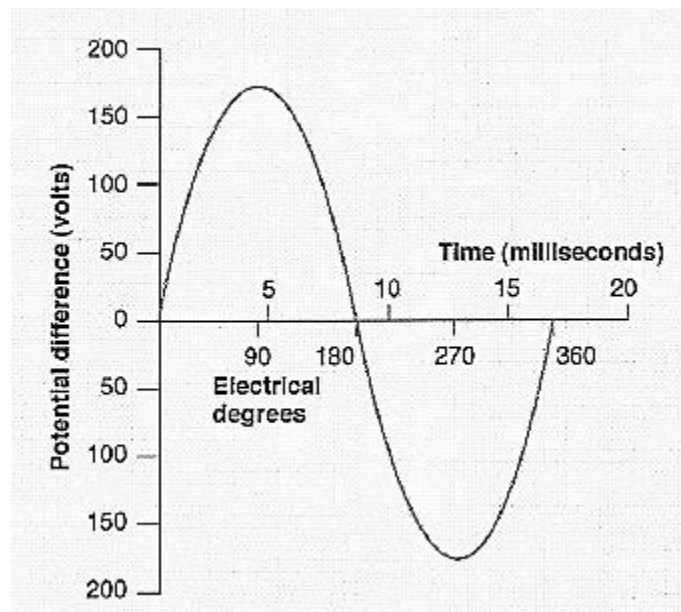

Figure 1.5: AC Cycle for 120V, 60 Hz
- 1-14 The AC waveform is called a *sine wave*. The name "sine" comes from the branch of mathematics called *trigonometry*. The waveform matches a graph of the sine of an angle as the angle increases. The output of an ac generator is proportional to the sine of the angle of the spinning rotor in the generator. The waveform for one complete revolution of the generator is shown in Figure 1.5.
- 1-17 The maximum height of the waveform is called its *amplitude*. It is the value at the peak of the waveform. In a sine wave, the amplitude is the height of the peak above the horizontal axis. The minimum points, the "negative peaks", are equal distance below the horizontal axis as shown in Figure 1.5.